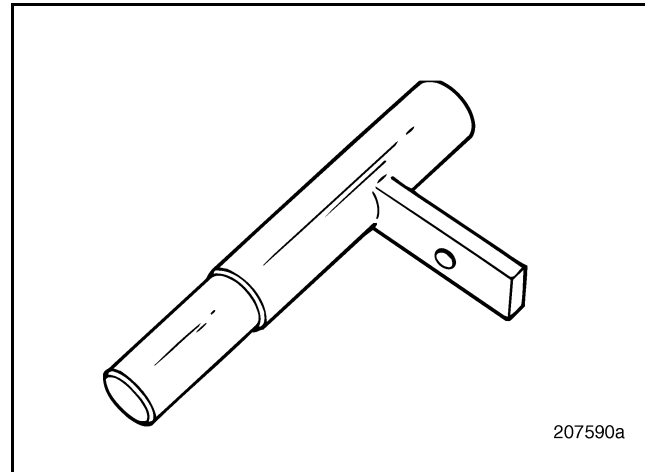
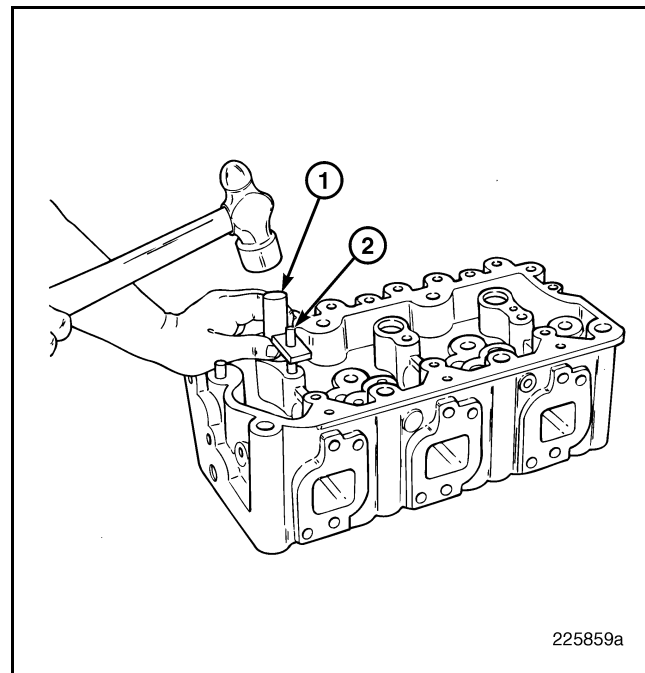

Figure 271 — Nozzle Sleeve (Insert) Installer
Figure 272 — Injection Nozzle Holder Insert Installation
4. Install the alignment pin and using the nozzle insert installer J 42595, drive the insert into the cylinder head until it bottoms on the lower counterbore face. Refer to Figure 271 and Figure 272.